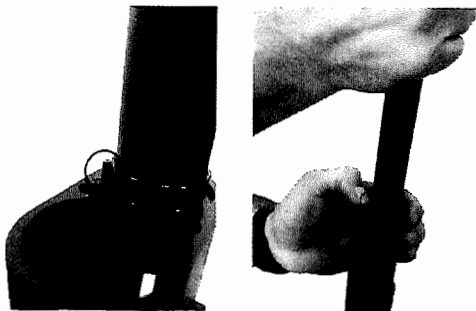

Fig. 30
8. Push the Pin-1 as shown on (Fig. 30).